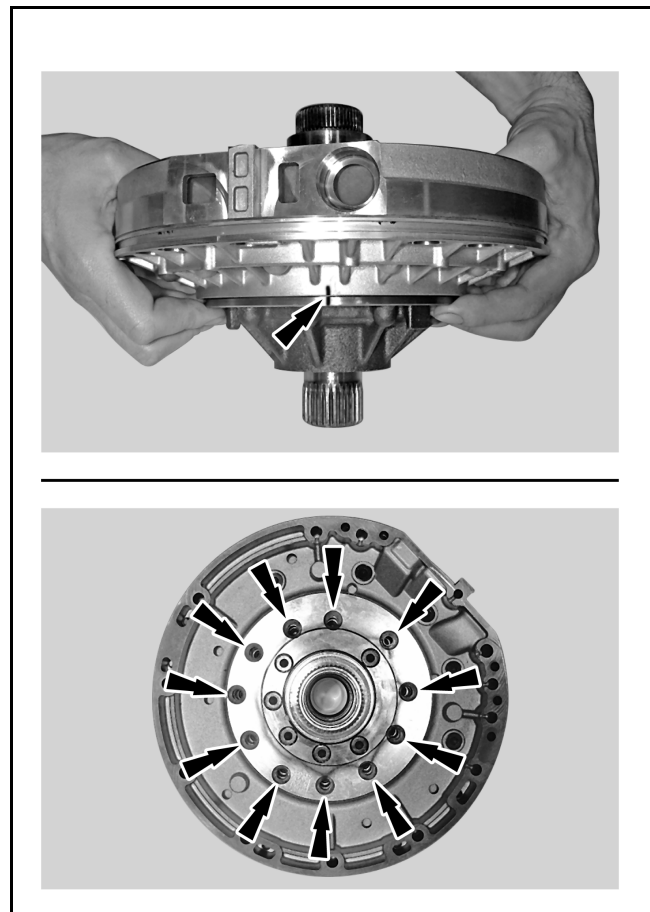

Figure 5 - Article 12-11-14
18. Lube new pump body and gear assembly outer pump body O-ring with clean transmission fluid and align new pump body and gear assembly to pump plate and stator and carefully install into the pump plate and stator. (Figure 5)